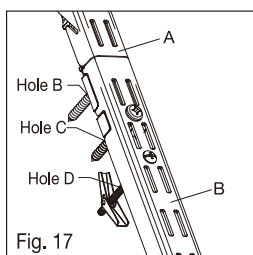

Fig. 17
- ☐ Put the lower vertical rail (B) as shown and secure it on hole C with panhead screw (#12 x 2 in.) and on hole D with toggle (3/16 in.) and bolt (3 in.) (see Fig. 17). Make sure the toggle (3/16 in.) and the bolt (3 in.) are installed on lower vertical rail (B) before secure.